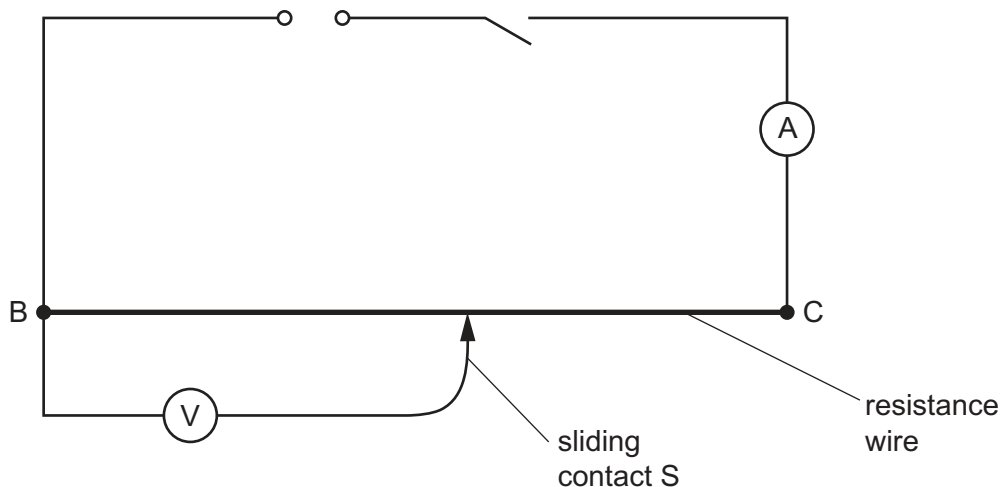
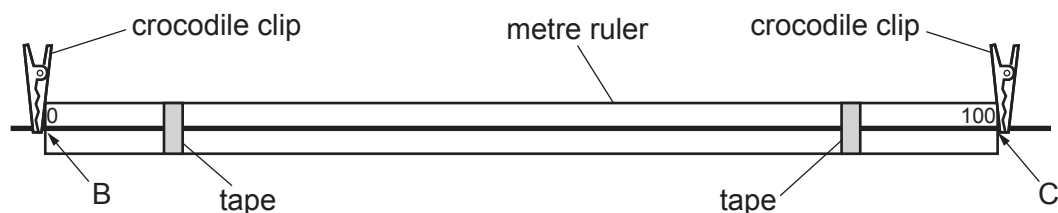

Fig. 2.1
Fig. 2.2
- (vi) Two suitable terminals (e.g. crocodile clips) attached to the constantan wire at the ends of the metre ruler so that connections can be made to the circuit (see Fig. 2.1 and Fig. 2.2). The terminal at the zero end of the ruler is to be labelled 'B'. The terminal at the 100 cm end of the ruler is to be labelled 'C'.
- (viii) Sufficient connecting leads to set up the circuit shown in Fig. 2.1.
1. The circuit is to be set up for the candidates as shown in Fig. 2.1.
4. The wire must be attached to the metre ruler as shown in Fig. 2.2.
Check that the circuit is arranged as shown in Fig. 2.1.